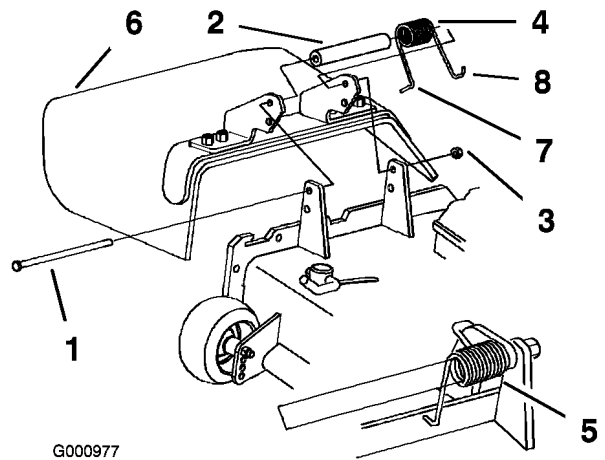

Figure 81
1. Remove the locknut, bolt, spring and spacer holding the deflector to the pivot brackets (Figure 81). Remove the damaged or worn grass deflector.
Note: Make sure the L end of the spring is installed behind the deck edge before installing the bolt as shown in Figure 81.
3. Install the bolt and nut. Place the **J** hook end of the spring around the grass deflector (Figure 81).